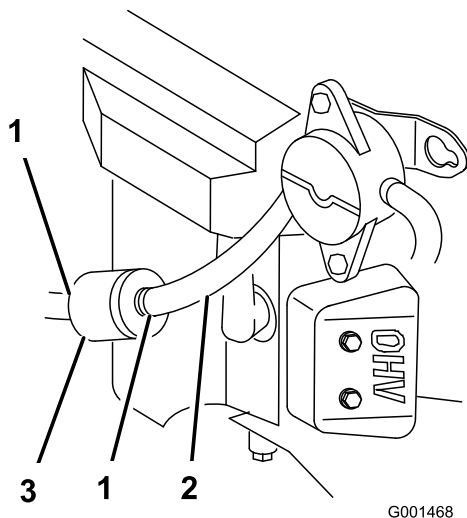

Figure 52
3. Clean around the fuel cap to prevent debris from getting into the fuel tank (Figure 52).
4. Squeeze the ends of the hose clamps together and slide them away from the filter (Figure 52).